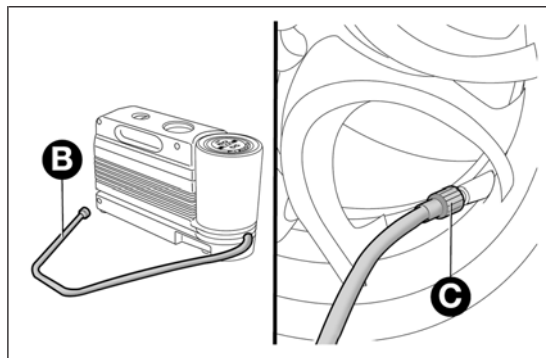

fig. 126
- ❑ engage the handbrake, unscrew the tyre valve cap, take out the flexible filler pipe A fig. 126 and tighten the ring nut B on the tyre valve;